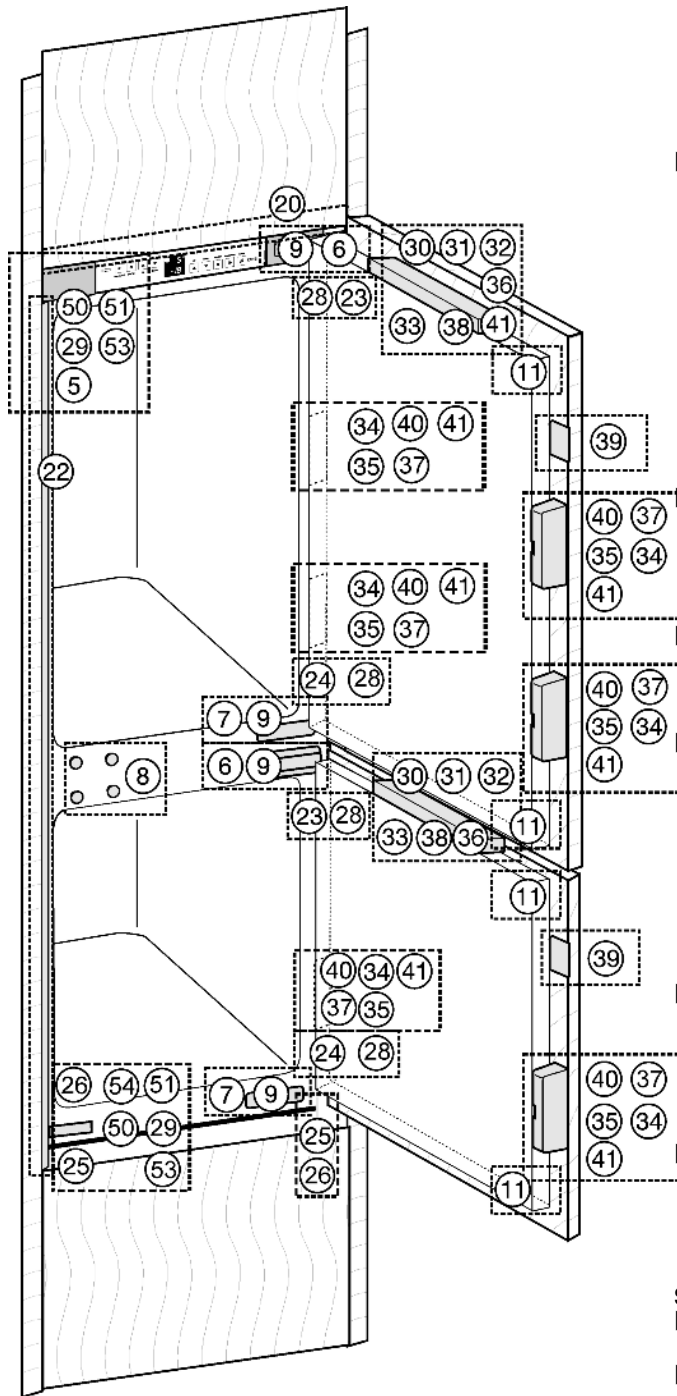
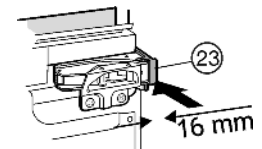
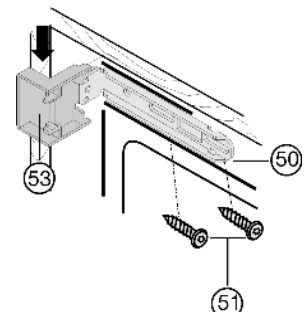
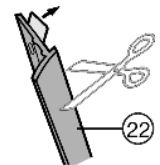

Fig. 8
Fig. 12
Fig. 13
Fig. 14
- ▶ Remove the covers Fig. 8 (5,6,7).
- ▶ For 16 mm-thick unit walls = 568 mm-wide recess: Clip spacer Fig. 12 (23) onto the upper hinge and spacer Fig. 8 (24) onto the lower hinge.
- ▶ Attach the top cover Fig. 13 (53) and bottom cover Fig. 13 (50) to the mounting brackets.
- ▶ Fasten the mounting brackets Fig. 13 (50) at the top and bottom with screws Fig. 13 (51) so that the brackets can still be moved a little to the left and right.
- ▶ Strip the protective film off the cover trim Fig. 14 (22). Apply the cover trim Fig. 14 (22) to the projection of the cover Fig. 13 (53) on the handle side, flush with the front, and adhesively affix it to the side wall of the appliance.
- ▶ If necessary, shorten the cover strip Fig. 14 (22) at the bottom: The cover strip Fig. 14 (22) has to end 3 mm above the upper edge of the lower mounting bracket Fig. 8 (50).
- ▶ Slide in the appliance until the covers Fig. 13 (53) abut Fig. 13 against the side wall of the kitchen unit.
- ▶ Allow for the extra distance (depth of the door stop components): Allow hinges and covers Fig. 13 (53) to protrude by the extra distance.
- ▶ Vertically align the appliance by means of the adjustable-height feet *Fig. 8 (25)*, using the accompanying open-ended spanner *Fig. 8 (26)*.